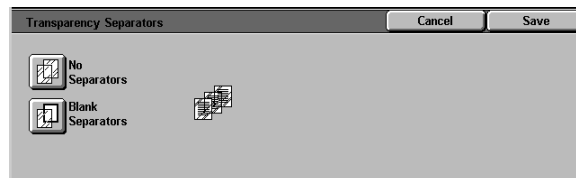

Figure 16: Transparency Separators screen with No Separators selected
- **No Separators** (Figure 16)